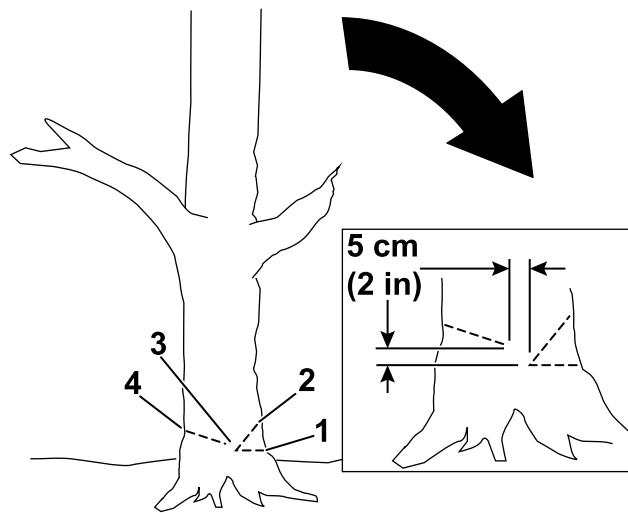

Figure 16
5. Make a second cut to form a notch, starting the cut at least 5 cm (2 inches) above and away from the first cut (Figure 16).
6. Make the back cut from the opposite side of the notch and about 5 cm (2 inches) higher than the bottom of the notch as shown in Figure 16.
Important: Stop the third cut 2.5 to 5.0 cm (1 to 2 inches) from the notch to form a hinge between the cuts (Figure 16), which keeps the tree from falling in the wrong direction or twisting as it falls.
Note: As the back cut nears the hinge (Figure 16), the tree should begin to fall.
4. Make the first cut a third of the way through the tree diameter on the side where you want the tree to fall (Figure 16).